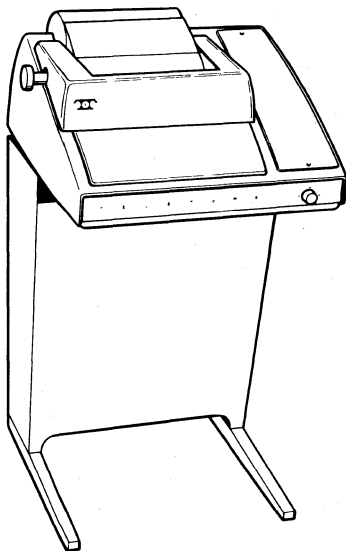

Figure 1 - Typical Model 33 Receive-Only (RO) Teletypewriter Set
RECEIVE-ONLY (RO) TELETYPEWRITER SET (Figures 1 and 4)